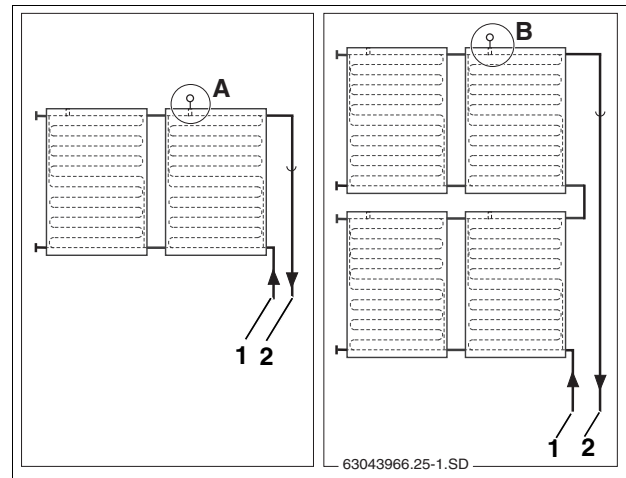

Fig. 53 Collector sensor well location (schematic)
Ensure the correct sensor placement in single and multi-array solar systems (Fig. 53).
The collector sensor must be installed in the collector that the supply pipe is connected to (Fig. 53, [2]).
- Location (Fig. 53, [A]) for single array collector systems.
- Location (Fig. 53, [B]) for dual array collector systems.